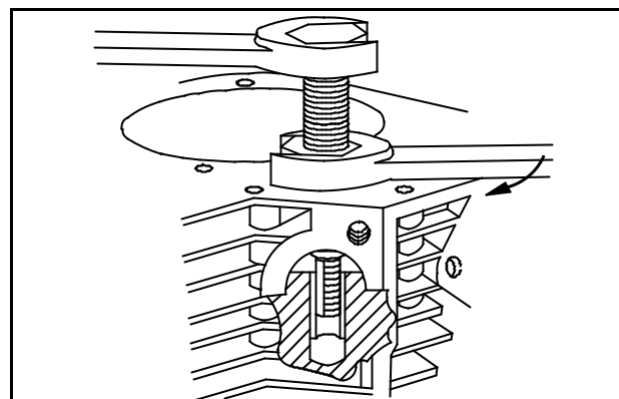

Fig. 17 – Remove Bushing
6. Hold hex head of puller screw from turning and turn hex nut down on puller washer. Continue turning nut until bushing is removed, Fig. 17.